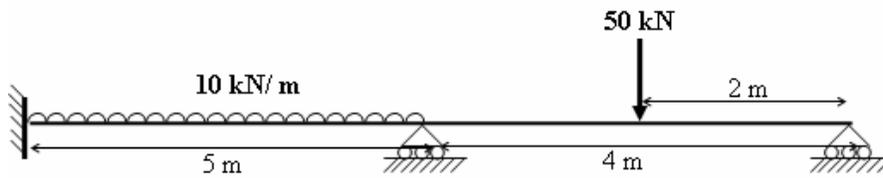

Fig.4
6. Analyze the beam shown in Fig.4, using stiffness method. [16]